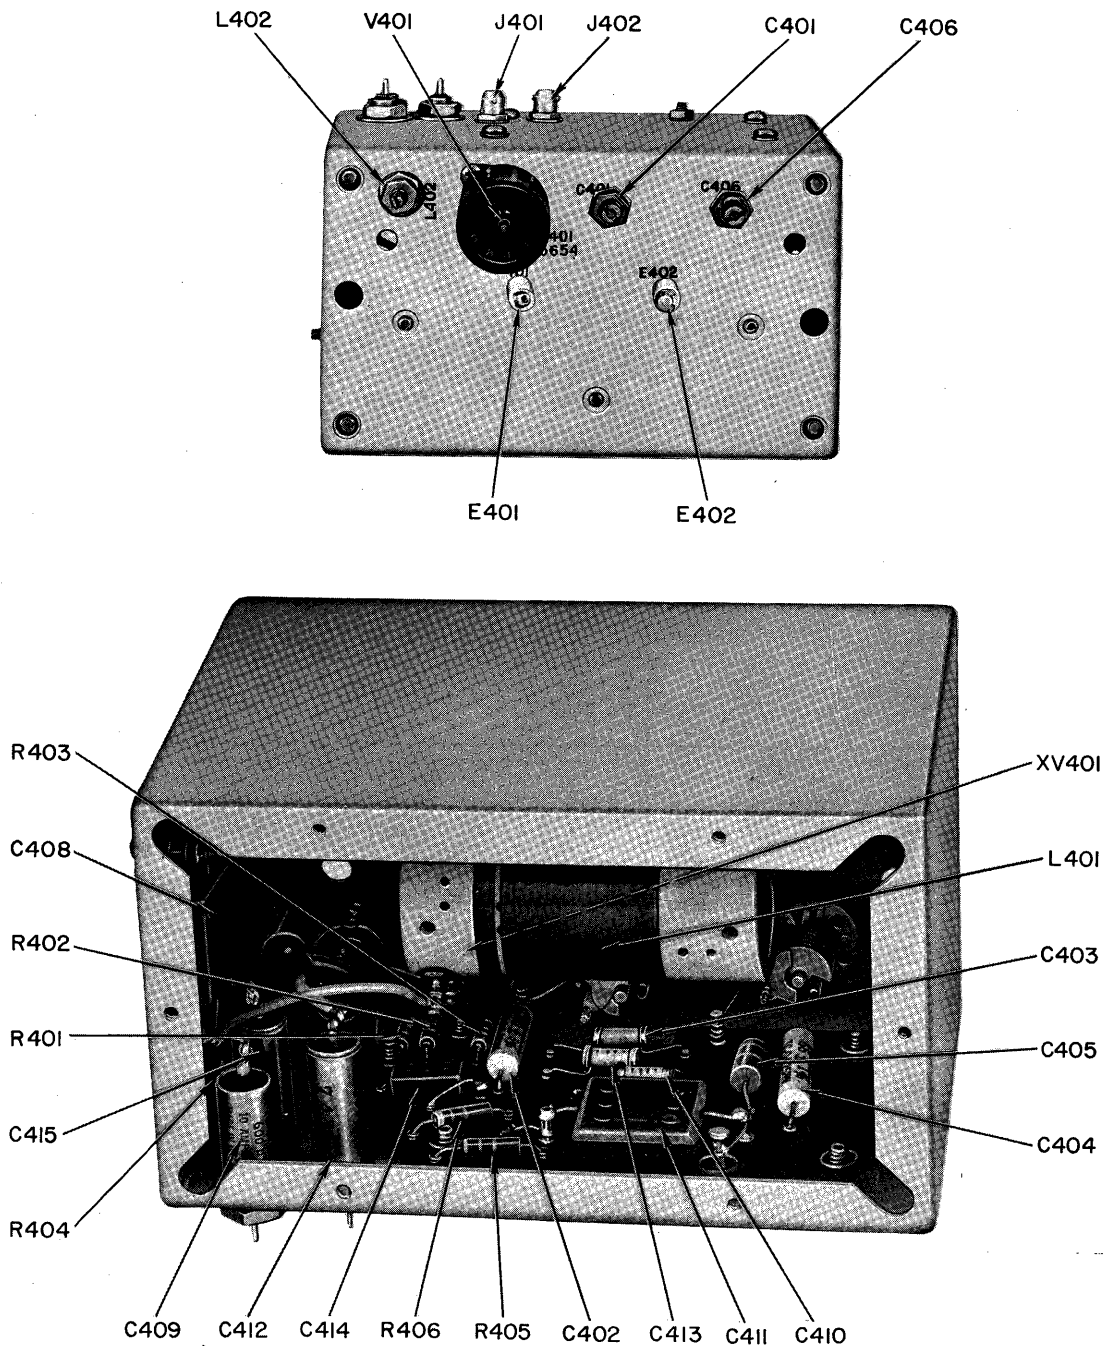

Figure 5-42. Interpolation Oscillator, Location of Parts
**b. ACCESS.**—The interpolation oscillator is located in the lower converter deck. For access to the top, index the upper deck; for access to the bottom, index the entire drawer. Figure 5-42 shows the location of parts.